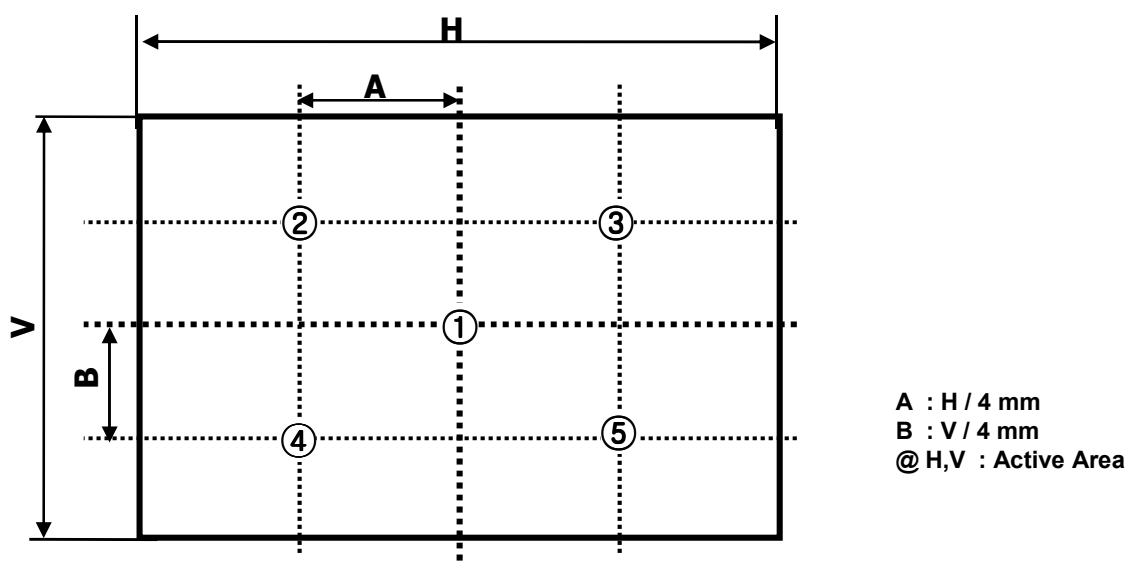

FIG. 10 5 Points for Luminance Measure
2. Surface luminance are determined after the unit has been 'ON' and 1 Hour after lighting the backlight in a dark environment at  $25 \pm 2^\circ\text{C}$ . Surface luminance is the luminance value at center 1-point across the LCD surface 50cm from the surface with all pixels displaying white. For more information see the FIG. 10.
For more information, see the FIG. 10.